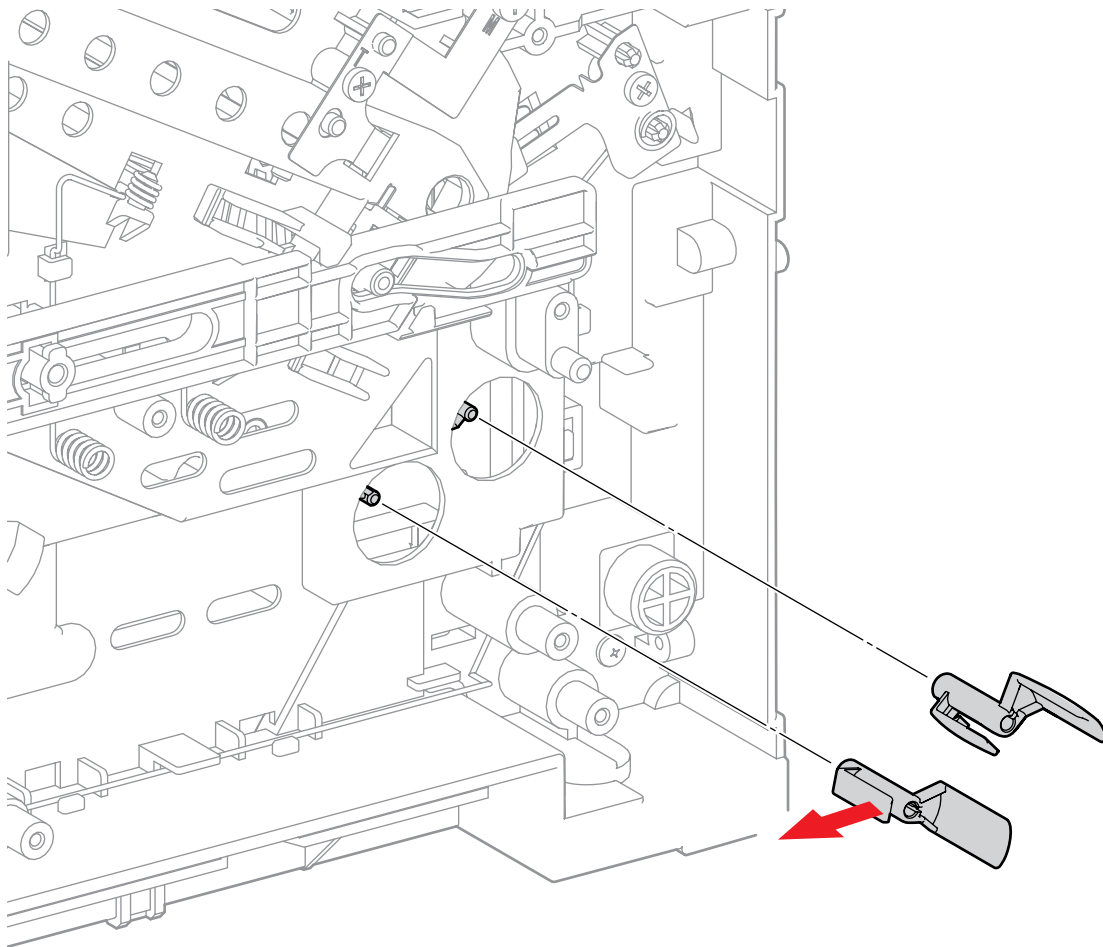

Figure 1
2. Release the clip that secures the Registration Sensor Shutter to the Actuator Shaft. (Figure 1)